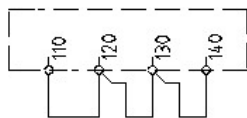

Figure-6: bridging of safety chain
- Remove the bridging made for safety circuit terminals 110-140 (see Figure-6).